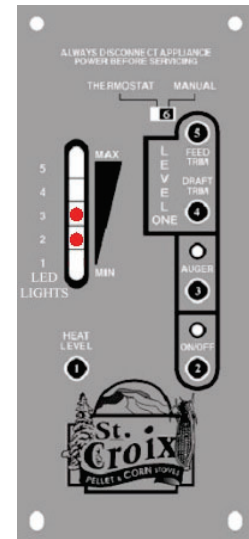

Figure 13
**LED light 2 and 3 flashing at the same time** – This will indicate that the High Limit Switch has tripped and shut the unit down. Reset the High Limit Switch before diagnosing the unit. (Fig 13)